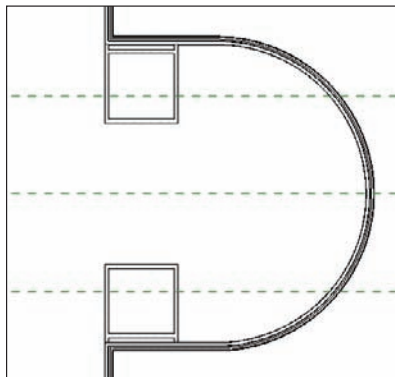

FIGURE 2.30 The elevator shaft is now mirrored.
3. Pick the horizontal reference plane in the center of the building. Your walls are now mirrored, as shown in Figure 2.30.